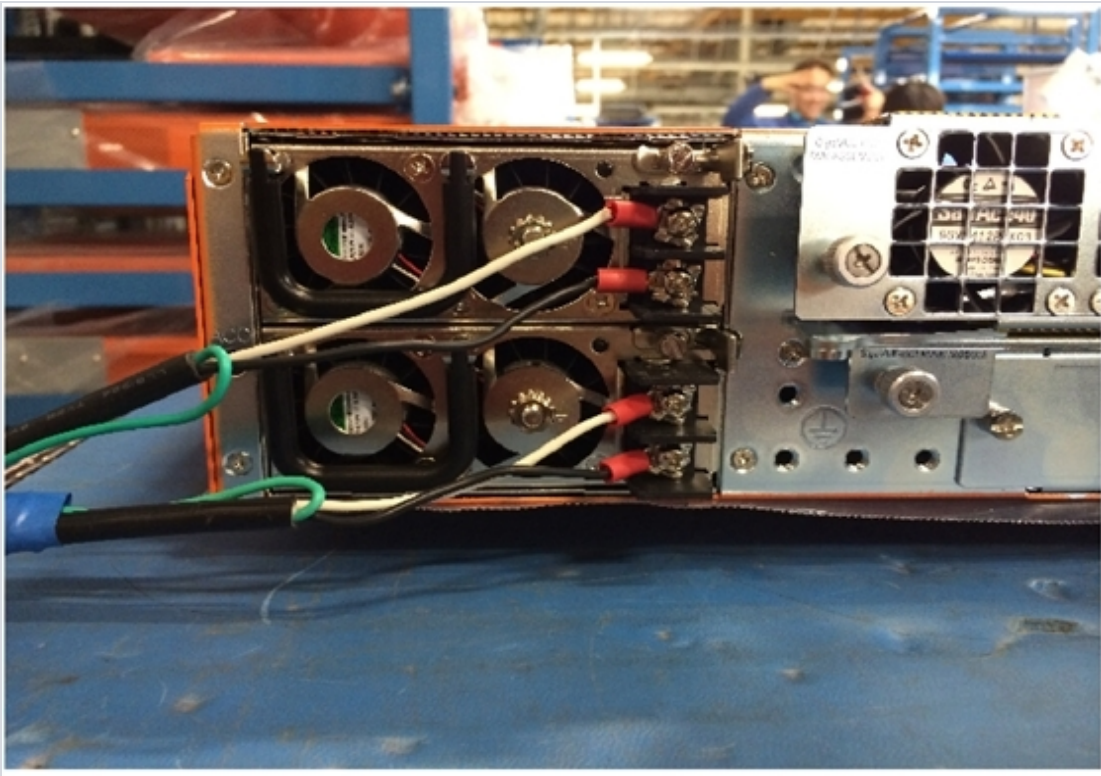

Figure 4: DC Power Module
**NOTE:** For information on connecting the optional DC power modules, refer to Figure 4: DC Power Module on page 52.
**IMPORTANT:** As shown in Figure 4: DC Power Module, the leads to the DC power supplies on the GigaVUE-HC2 node should attach from the side of the chassis **away** from the terminal block. Run the wires to avoid obstructing airflow for the adjacent fans.